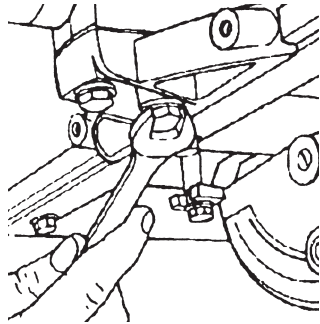

Figure 66
- b. Use a 1/2" Wrench to loosen the two Hex Bolts attaching the Fence Base, so they are just tight enough to require firm pressure to align the Fence. See Figure 66.